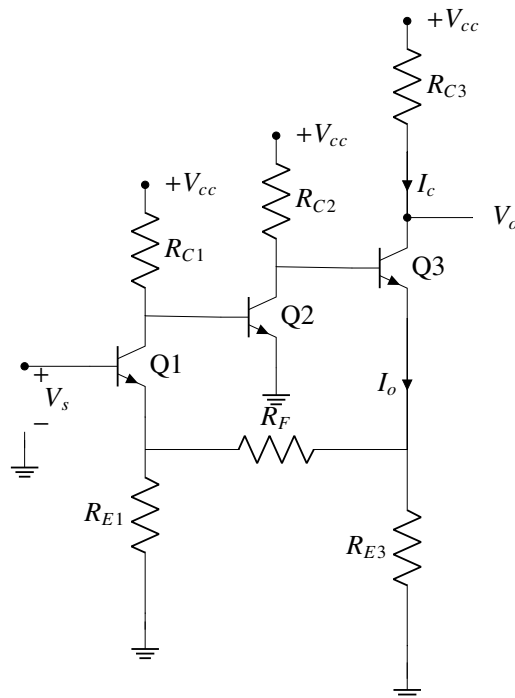
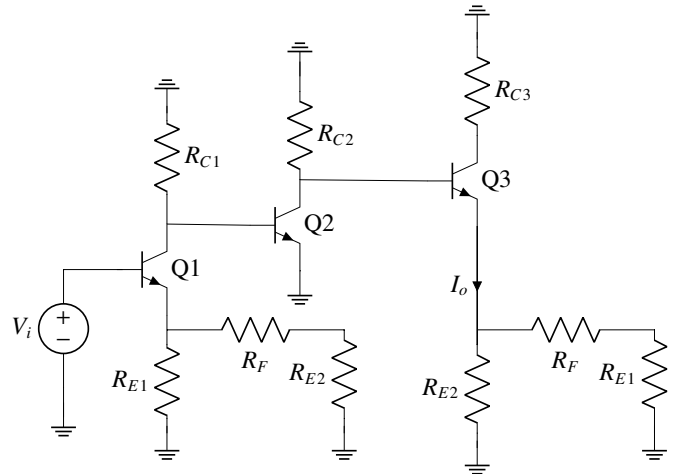

Fig. 14.0.0: circuit1
Fig. 14.0.3: circuit3
14.0.1. Part of the circuit of the MC1553 Amplifier is shown in circuit1 in fig.14.0.0 Assume the loop
Solution: employing loading rules in fig.14.0.0, we obtain circuit3 given in fig.14.0.3 to find $G = \frac{I_o}{V_i}$ we determine the gain of first